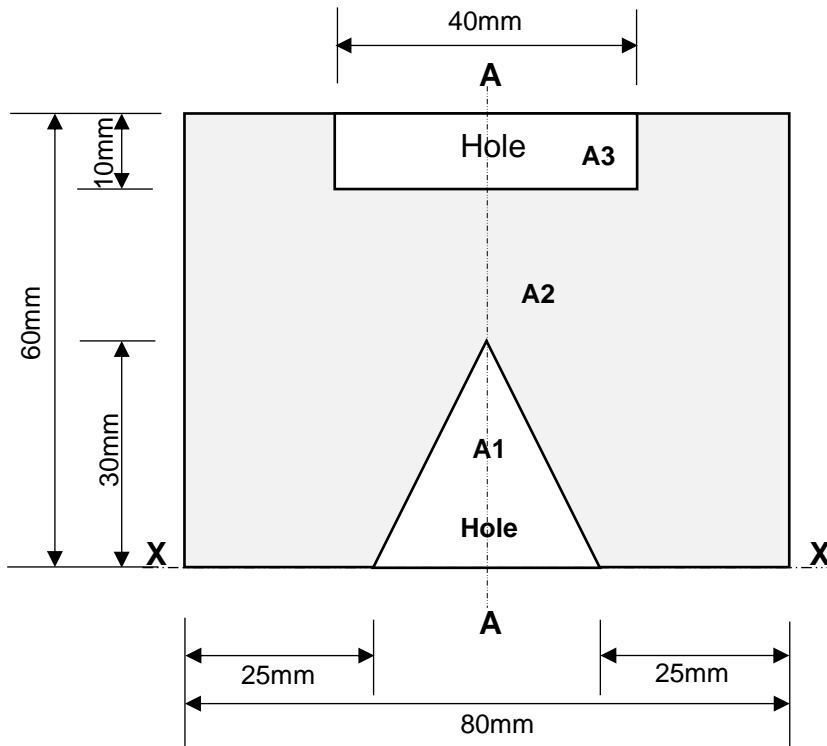

FIGURE 2
4.1 A piece of metal plate of even thickness is shown in FIGURE 2, DIAGRAM SHEET 1 (attached). The compound section is symmetrical about A–A. All measurements are in millimetres.